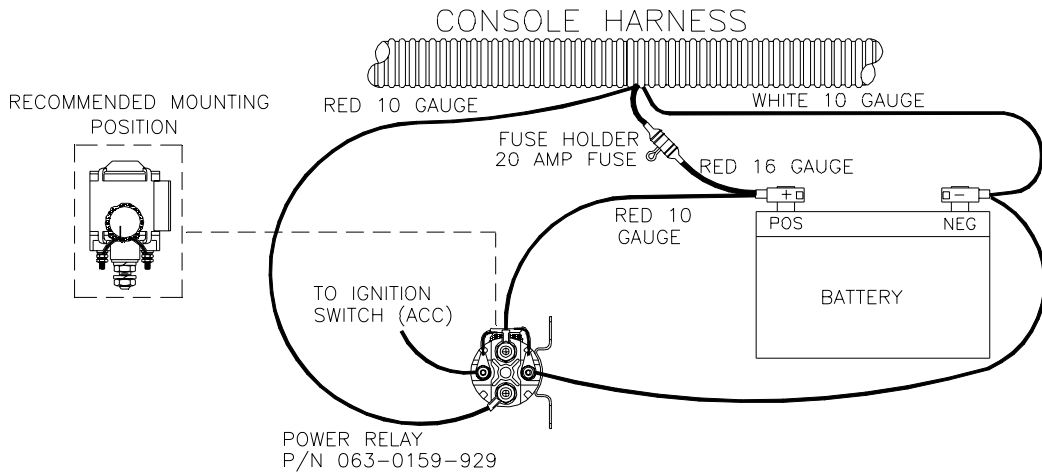

FIGURE 6A
NOTE: Power relay P/N 063-0159-929 must be installed. Reference Battery Connection Figure 6A.
- 2) A relay must be installed between the red 10 gauge wires and the battery. The relay is normally controlled from the accessory side of the ignition switch. See Figure 6A.